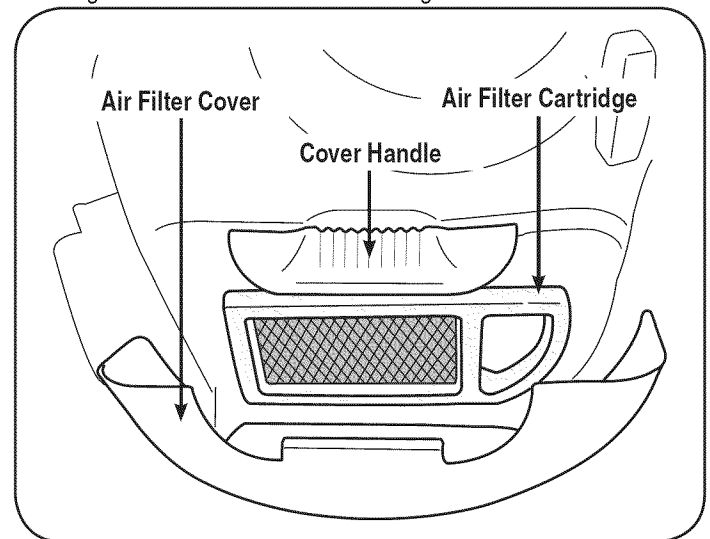

Figure 16
1. Pull up on the cover handle. Rotate the cover handle toward the engine and remove the cover. See Figure 16.